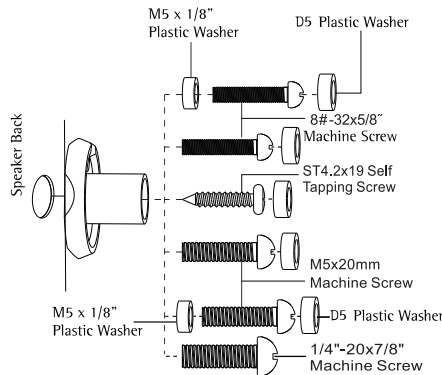

Figure 3
4. Check the size of the hole and make sure the 8#-32x5/8" machine screw, the ST4.2x19 Self Tapping Screw, the 1/4"-20x7/8" machine screw, or the M5 x 20mm machine screw fits inside (Figure 3).